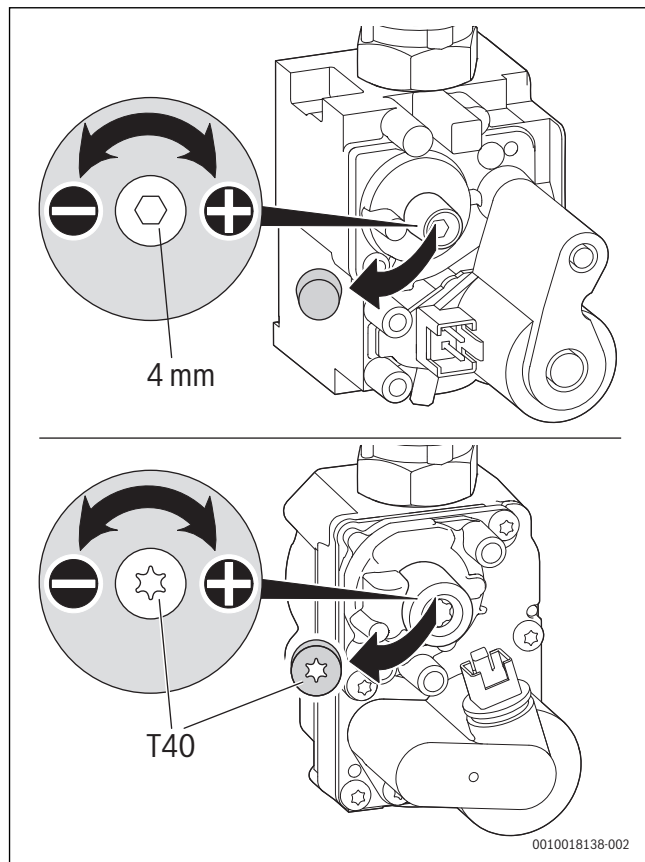

Fig. 93 Setting the CO₂ content (above: SIT valve, below: Honeywell valve)
- ▶ Remove the seal from the adjusting screw of the air/gas ratio control valve (only air/gas ratio control valve is shown in the below Fig. 93) and set the CO₂ content for minimum rated output.